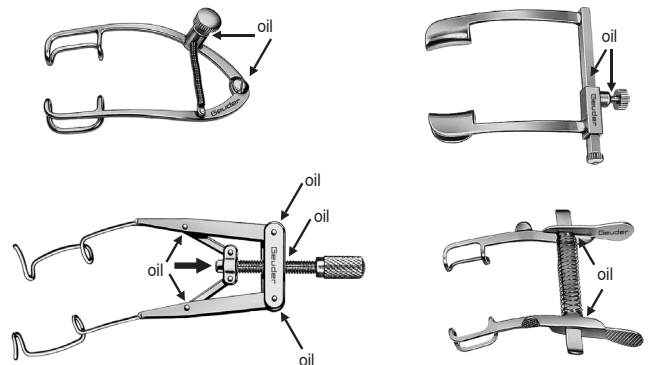

Fig. 2
- Apply the instrument oil selectively on the area that needs it (fig. 2).